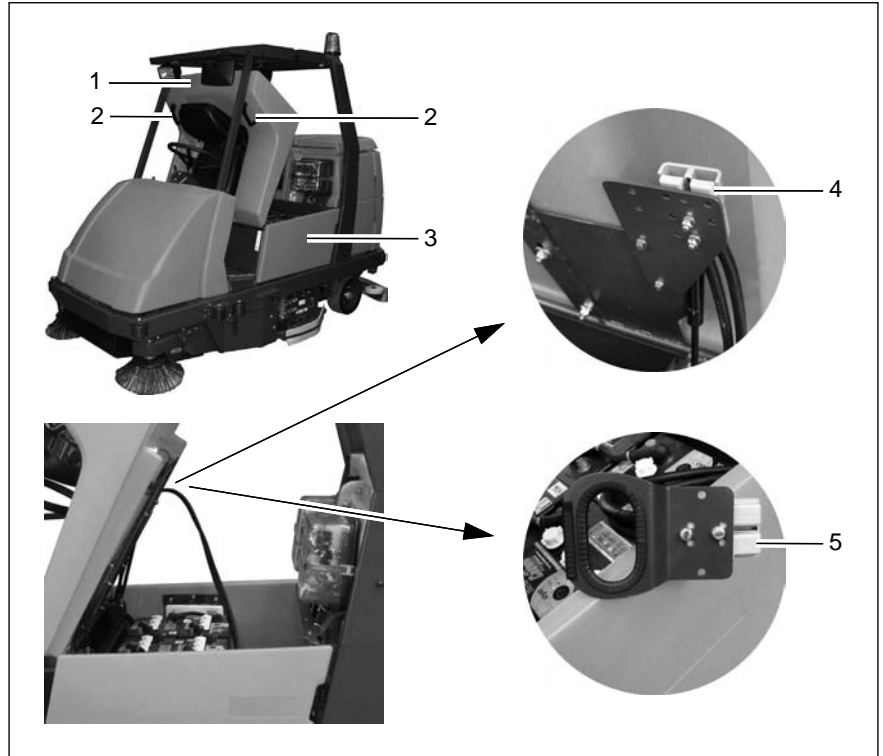

Fig. 28
2. Open the side doors to the left and right (Fig. 28/3).
3. When you are positioned on the right-hand side of the vehicle, take hold of the seat console at the handle (Fig. 28/2) and pivot up towards the front.
Pivot the seat console (Fig. 28/1) open from the right-hand side of the vehicle, otherwise your hands could be crushed between the seat console and cab safety roof (if fitted).
4. Disconnect the battery and vehicle plug (Fig. 28/4+5).
1. Open the side doors to the left and right (Fig. 28/3).
2. Take hold of the seat console (Fig. 28/1) at the handle (Fig. 28/2) and pivot it forwards to open it.
Install the 6 monobloc batteries into the tray in the vehicle from the left-hand side of the vehicle using lifting gear or a fork-lift truck according to Figure 28.
Connect the battery plug (Fig. 28/5) and vehicle socket (Fig. 28/4) to each other. Ensure they are connected firmly.